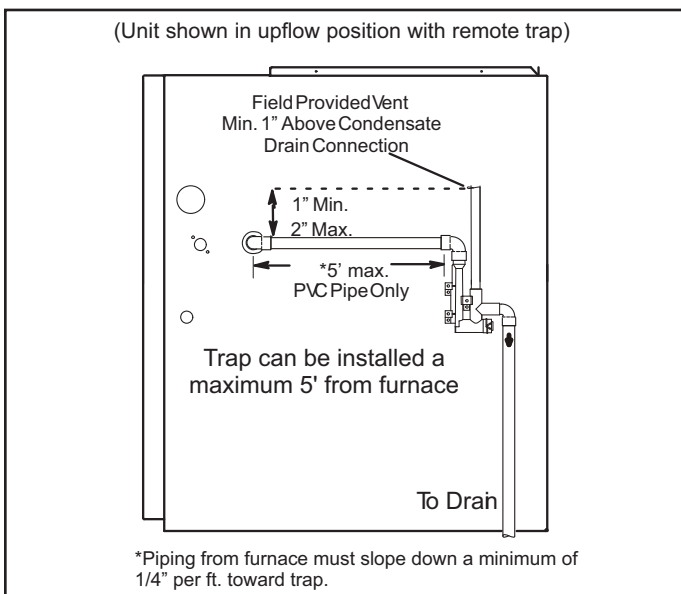
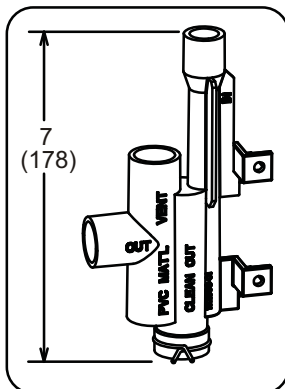

Figure 36. Condensate Trap Locations
Figure 44. Trap / Drain Assembly Using 1/2" PVC or 3/4" PVC Cold End Header Box with 1/2 Drain Connection
This unit is designed for either right- or left-side exit of condensate piping in upflow applications. In horizontal applications, the condensate trap must extend below the unit. An 8" service clearance is required for the condensate trap. Refer to Figure 35 and Figure 36 for condensate trap locations. Figure 43 and Figure 44 show trap assembly using 1/2" PVC or 3/4" PVC.
3. Install the cap over the clean out opening at the base of the trap. Secure with clamp. See Figure 43 and Figure 44.
4. Install drain trap using appropriate PVC fittings, glue all joints. Glue the provided drain trap as shown in Figure 43 and Figure 44. Route the condensate line to an open drain. Condensate line must maintain a 1/4" downward slope from the furnace to the drain.